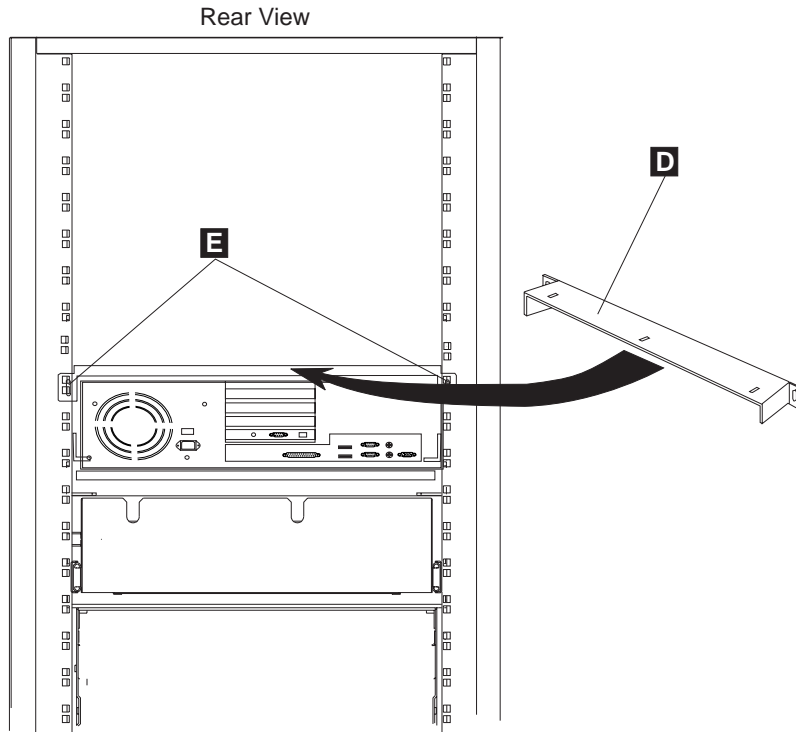

Figure 1-13. Support Installation at the Rear of a 37 U Rack
5. ____ On the rear of the rack install the support **D** using the screws (PN 43G3084) **E** (refer to Figure 1-13).